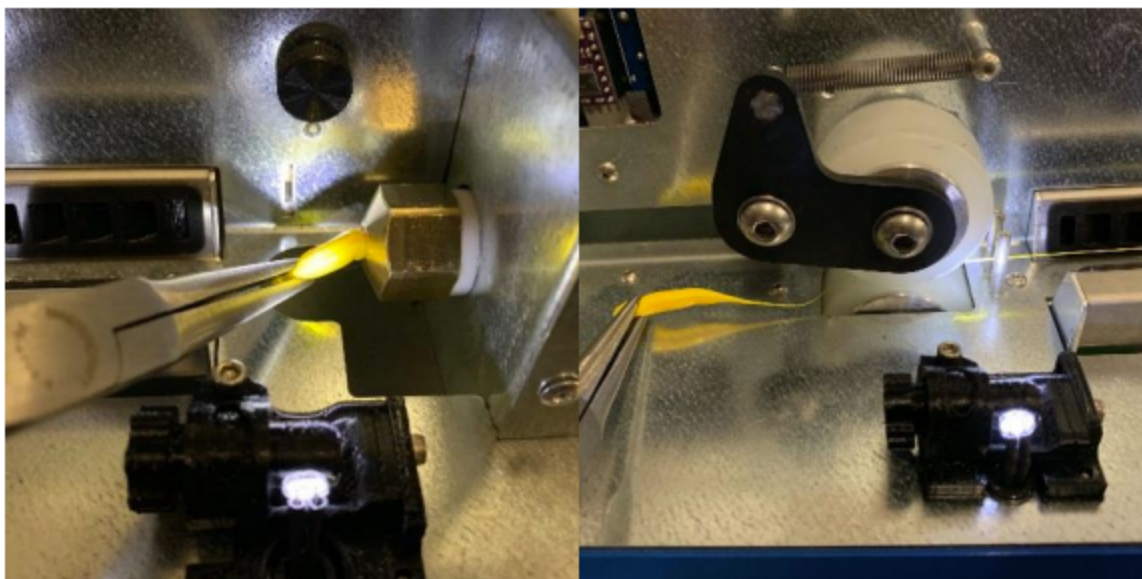

Figure 15: Using tweezers or pliers to feed the filament from the nozzle to the puller wheels
2. Once up to extrusion temperature, you will hear a chime and a prompt on your ProtoCycler+’s UI screen saying “Filament Ready”. At this time, you can now use tweezers or needle nose pliers to feed the plastic from the nozzle in between and through the puller wheels. Be careful! - The nozzle is extremely hot at this point in the startup sequence; follow safety guidelines to avoid personal injury or harm. Make sure you have engaged the puller wheel idler spring! See Figure 15 for reference.
11. Use tweezers or needle nose pliers to feed the plastic from the nozzle in between and through the puller wheels. Be careful! - The nozzle is extremely hot at this point in the startup sequence; follow safety guidelines to avoid personal injury or harm. Make sure you have engaged the puller wheel idler wheel spring! See Figure 15 for reference.